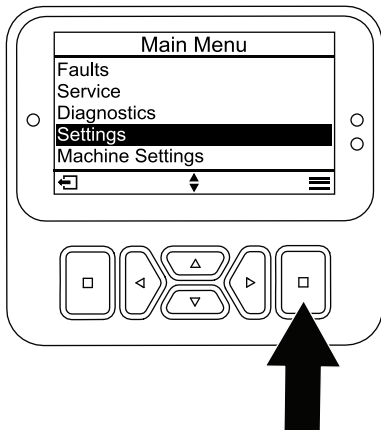

Figure 19
1. From the MAIN MENU, scroll down to the SETTINGS menu and press the select button (Figure 19).